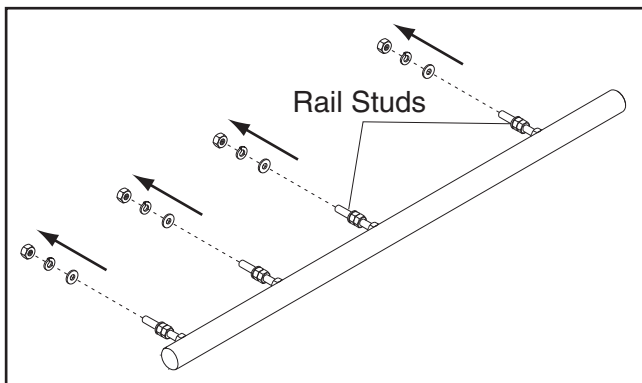

Figure 26. Removing rip fence rail hardware to prepare for installation.
16. Rip fence rail is pre-assembled with (4) rail studs and accompanying hardware. Remove (1) hex nut, (1) lock washer, and (1) flat washer from end of each stud, as shown in **Figure 26**.